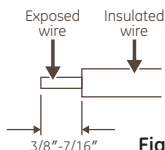

Figure 6
- d. Using wire strippers, strip the house AC power supply line wire (black), neutral wire (white) and ground wire (green) to expose 3/8" (9.5mm) - 7/16" (11.1mm) of wire (see **Figure 6**).